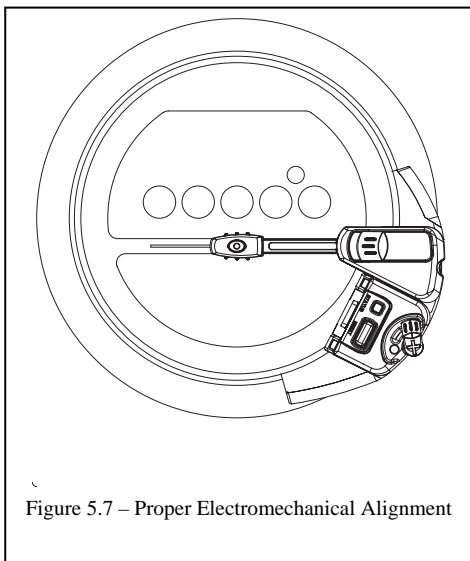

Figure 5.7 – Proper Electromechanical Alignment
6. Make sure that the Sensor Arm is properly positioned with the disk on the utility meter. It should be positioned so that the end of the Sensor Arm is inline with the disk and centered from side-to-side. If the Sensor Arm is not properly positioned the Sensor Unit may not detect the black mark on the disk passing by and will result in incorrect readings. Refer to figure 5.7, below, for correct Sensor Arm positioning.
8. Press and release the RESET button on the battery cover of the Sensor Unit, as shown in figure 5.7. The red indicator on the Sensor Unit will begin to flash once per second. It will take approximately 15-30 seconds for the Sensor Unit to determine that it is installed on an electromechanical meter. Once it has determined this, the red indicator light will begin to flash every time the black mark on the disk passes in front of the Sensor Arm.